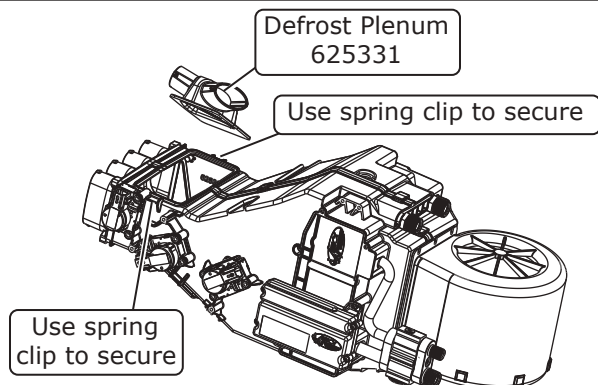

Figure 1
1. With the evaporator module on the passenger-side floorboard, install the defrost plenum onto the evaporator module as shown in Figure 1, below. Use (2) spring clips to secure the defrost plenum (See Figure 1, below).